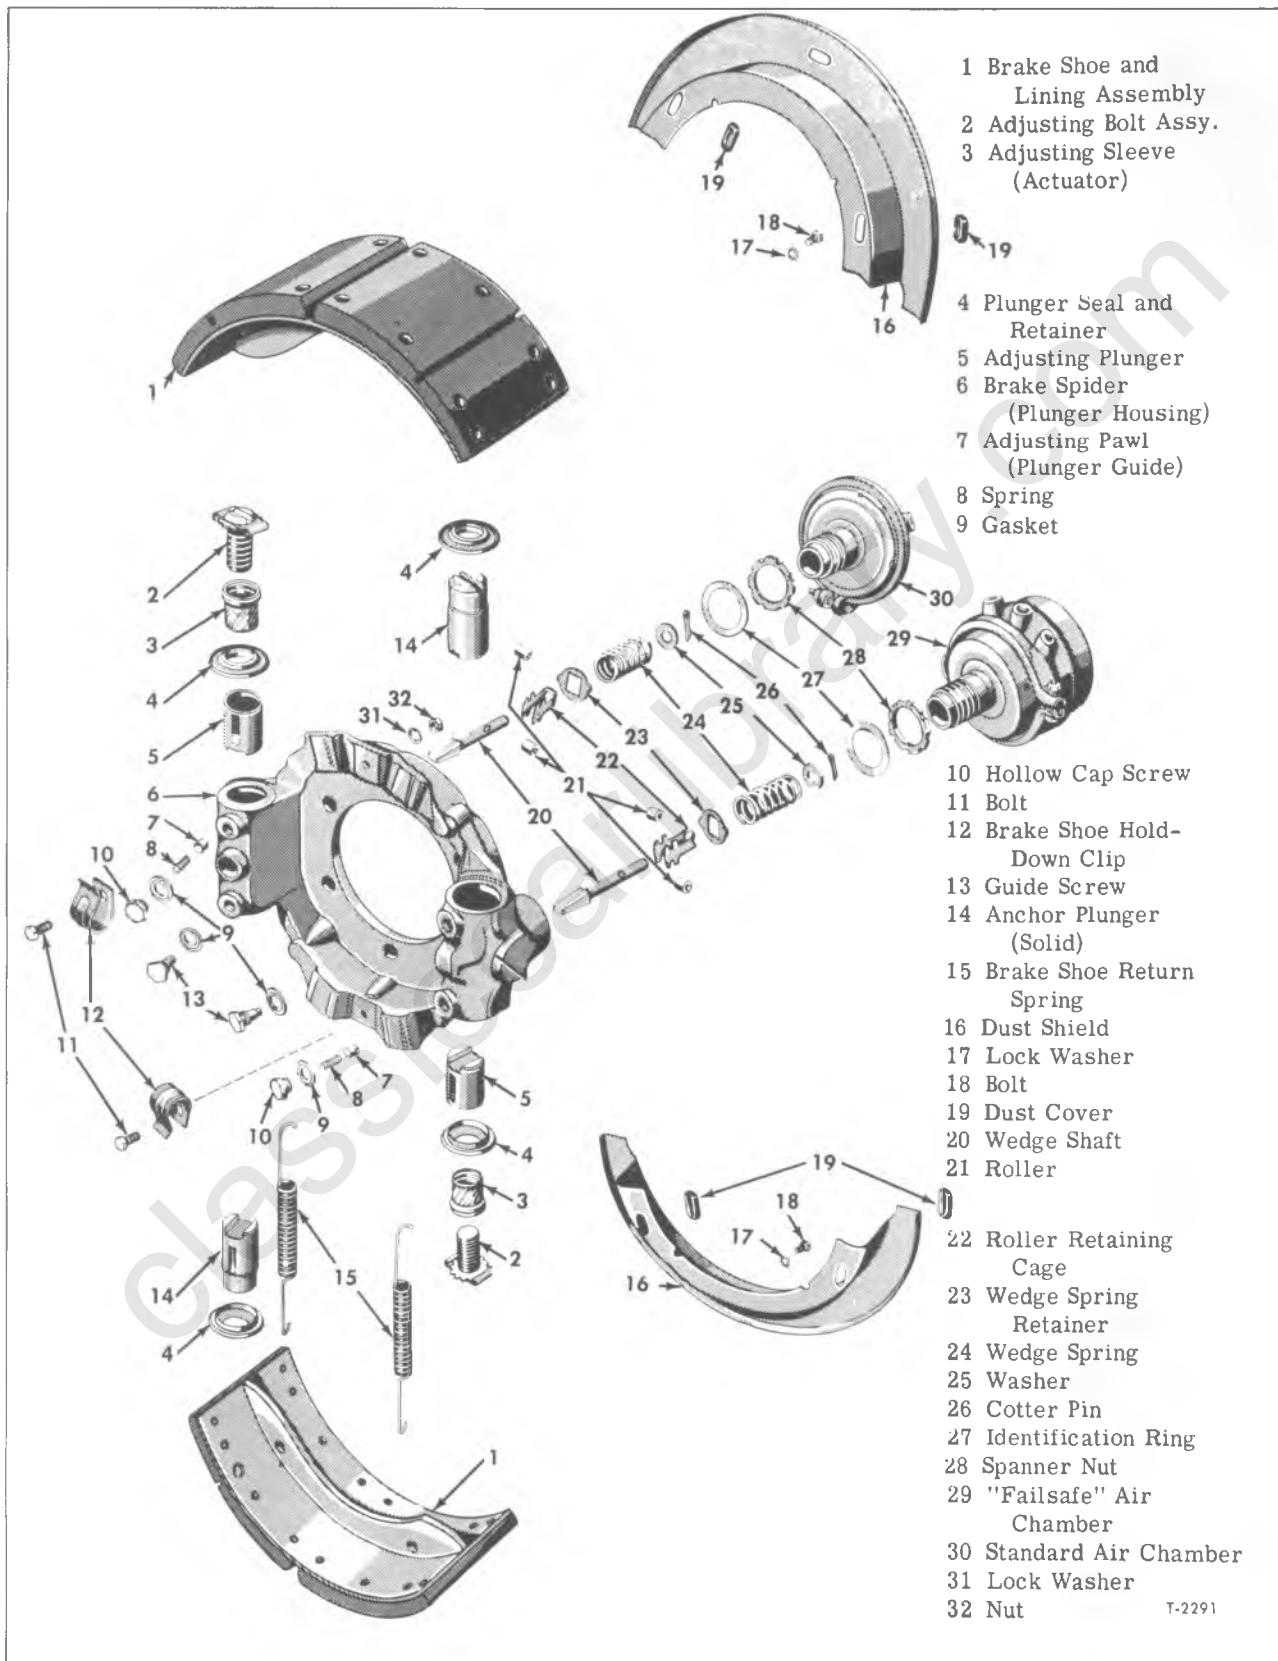

Figure 33—Stopmaster Brake Components (Automatic Adjuster with "Fail-Safe")
**BRAKE SHOE REMOVAL** (Refer to Fig. 33)
(Refer to Fig. 33)
**REMOVAL** (Refer to Fig. 33)
(Refer to Figs. 33 and 34)
(Refers to Figs. 33 and 34)
INSTALLATION (Refer to Fig. 33)
NOTE: Installation tool shown in figure 33 can